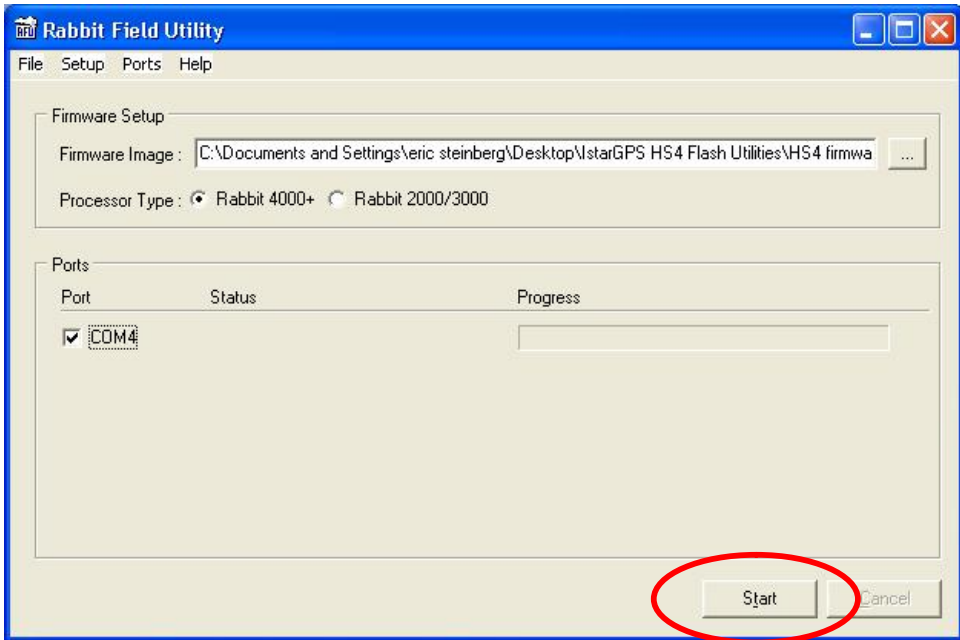

Figure 39 Update Utility com settings
11. After selecting the file, press Start (fig 39), updating will start and status will be indicated. The update takes ~30 seconds.